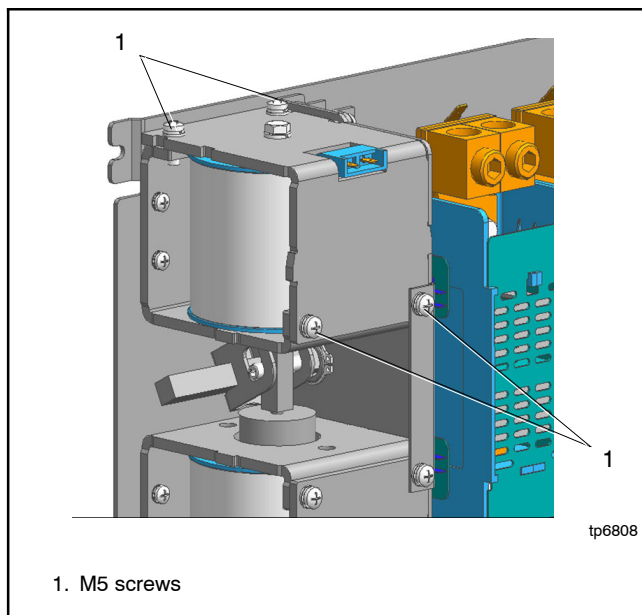

Figure 7-39 Install Coil Assembly
4. Tighten the M5 screws at four locations. Tightening torque for the M5 screws: 3 Nm. See Figure 7-39.